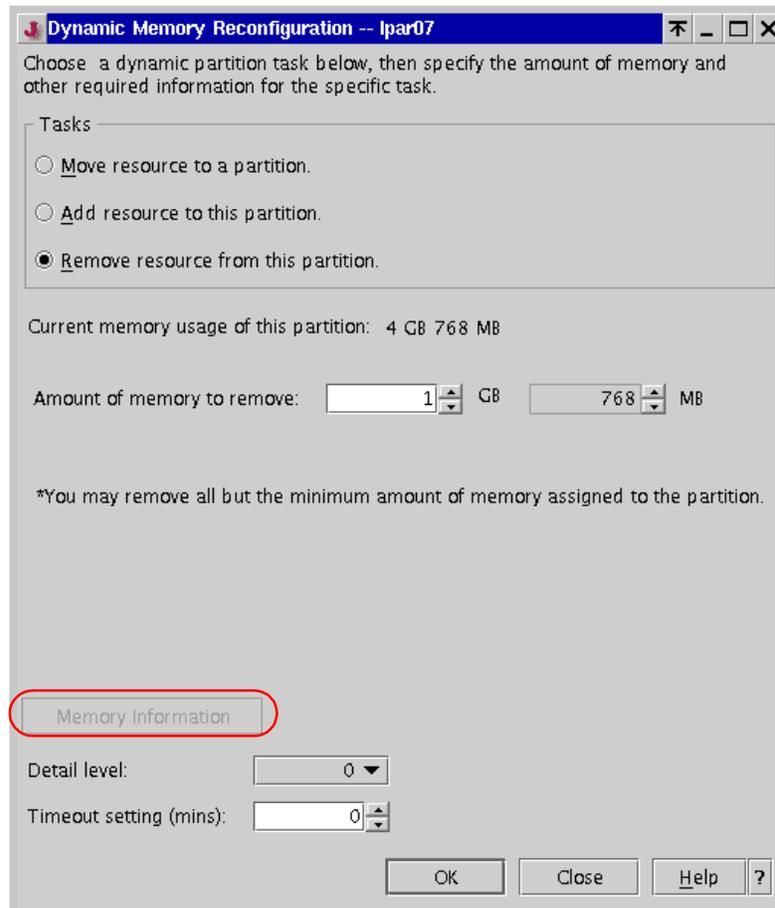

Figure 8-9 Dynamic memory removal from a partition
8. The Dynamic Memory Reconfiguration window opens. Select **Remove resource from this partition**, as shown in Figure 8-9.